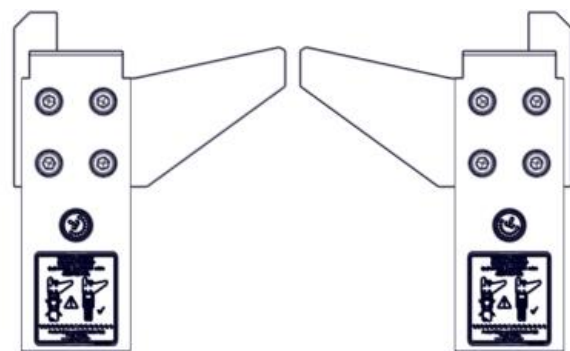

Figure 1-25 Elevator Support Left and Right Arm
v. **Elevator Support Left and Right Arm**. The Elevator Support Left and Right Arm (Figure 1-25) incorporate aluminum cantilever arm plate that fits between the wall and slots on both sides of the toe protection plate.